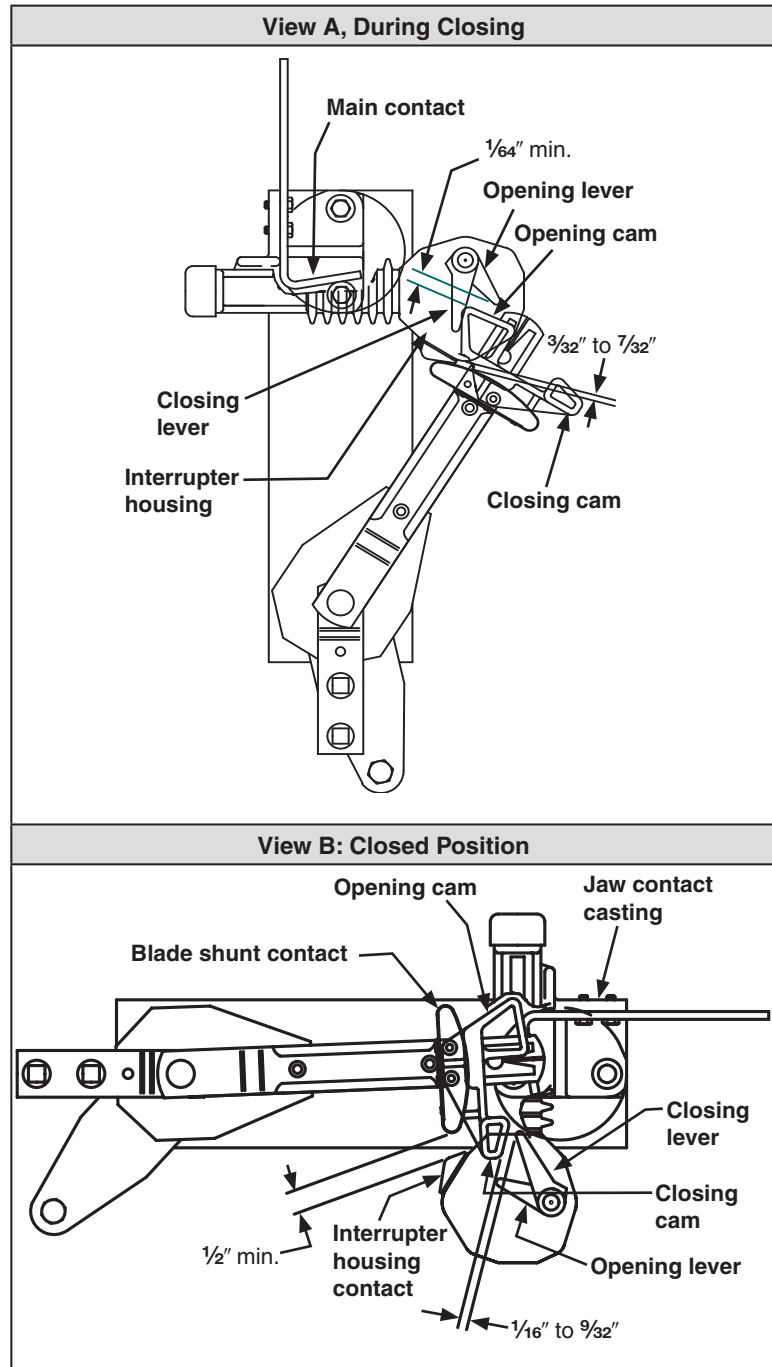

Figure 25. Operating checkpoints for switches rated 14.4 kV.
- c. Open the switch and place the blade in the position shown in Figure 25, View A. The following conditions should be met: